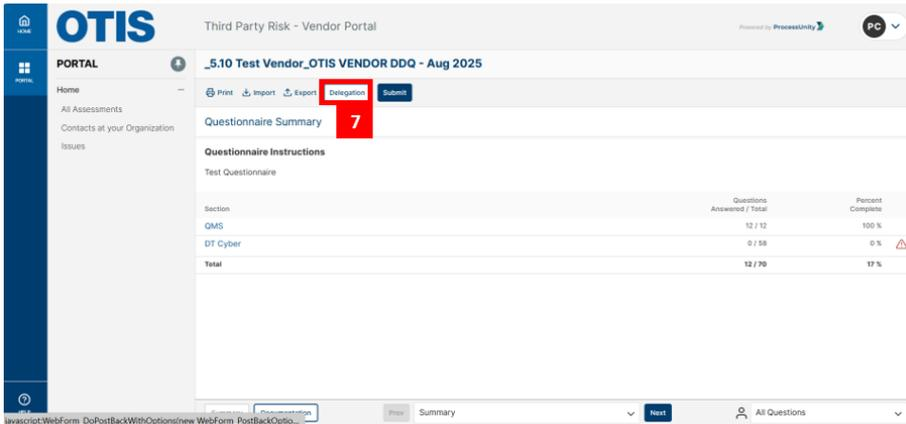

Figure 20
- Once you click on the assessment name, a page with summary of all questions answered and different sections involved will be displayed. If you want to delegate some sections of this assessment to any supplier, contact at your organization, click on the Delegation button (Refer figure 20)